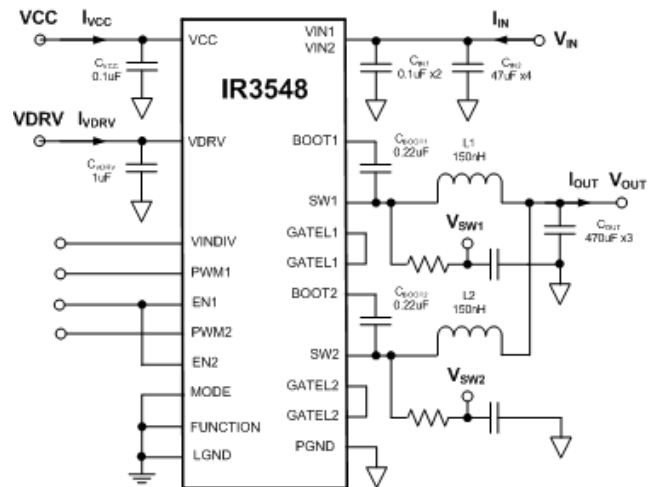

Figure 34: IR3548 Power Loss Measurement
Circuit of Figure 34, $V_{IN}=12V$, $V_{OUT}=1.2V$, $f_{SW} = 400kHz$, $L=150nH$ ($0.29m\Omega$), Two Phases, Dual Driver, PWM Mode, $V_{CC}= 5V$, $V_{DRV}=7V$, $T_{AMBIENT} = 25^{\circ}C$, no heat sink, no air flow, 8-layer PCB board of 3.7”(L) x 2.6”(W), no PWM controller loss, no inductor loss, unless specified otherwise.
Circuit of Figure 34, $V_{IN}=12V$, $V_{OUT}=1.2V$, $f_{SW} = 400kHz$, $L=150nH$ (0.29mΩ), Two Phases, Dual Driver, PWM Mode, $V_{CC}= 5V$, $V_{DRV}=7V$, $T_{AMBIENT} = 25^{\circ}C$, no heat sink, no air flow, 8-layer PCB board of 3.7”(L) x 2.6”(W), no PWM controller loss, no inductor loss, unless specified otherwise.
The two-phase IR3548 efficiency and power loss measurement circuit is shown in Figure 34.